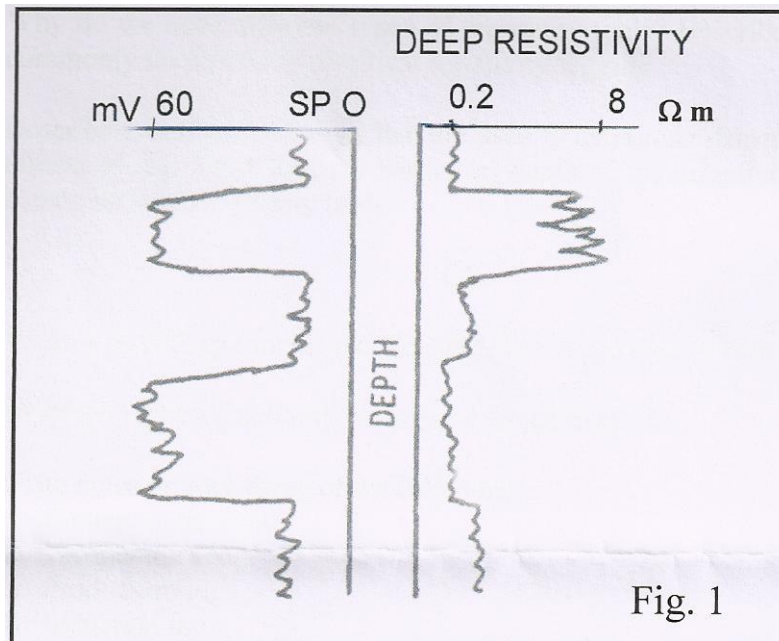

Fig. 1
B) Give a quick look interpretation and geological interpretation of the logs given [08] in the figure 1. Assume logically significant additional data and state values clearly. Calculate Sw.